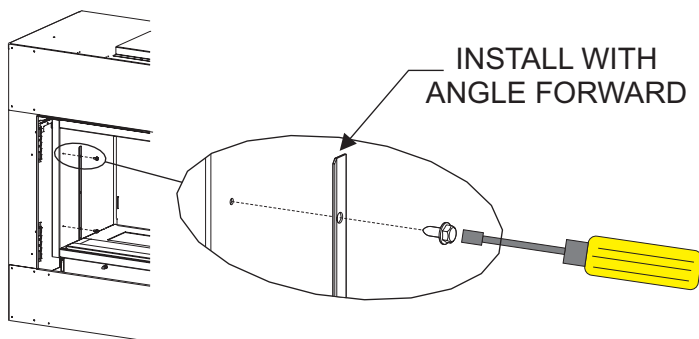

Figure 1
5. Install the two Side Retainer Brackets at the front left and right side openings of the firebox with two 5/16 X 1/2" screws each. These brackets must be installed so the angle break is facing forward. **See Figures 1 and 2.**